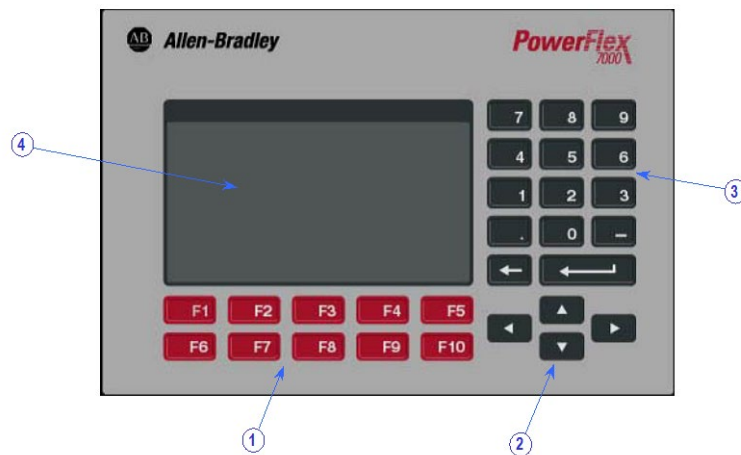

Figure 3.1– PowerFlex 7000 Drive Operator Interface Terminal
The operator interface used on the PowerFlex 7000 Medium Voltage Drive is that of the PanelView™ 550 terminal (Figure 3.1). This terminal however does not behave as a PanelView, as only the hardware for the operator interface has been utilized. The PanelView software has been replaced with unique software to tailor it to the requirements of the Medium Voltage Drive, and its faceplate has been modified (Figure 3.1).
The keypad of the operator interface consists of two rows of five function keys (item 1 of Figure 3.1) located below the operator interface display area (item 4 of Figure 3.1). In the lower right corner of the operator interface are four keys, which will be referred to as the cursor keys (item 2 of Figure 3.1). Above the cursor keys are data entry keys consisting of the numeric values 0-9, a decimal point (.), a negative (-), a backspace key and a data entry key (item 3 of Figure 3.1).